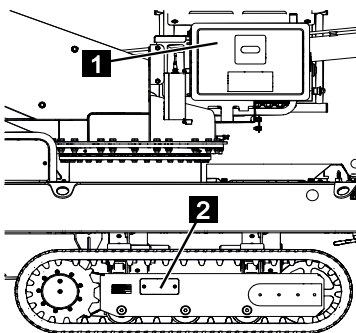

Fig. 236
10. Clean the button head coupler put it back in the stowage space (Fig.236/1).
11. Screw the maintenance cover (Fig.236/2) back on.